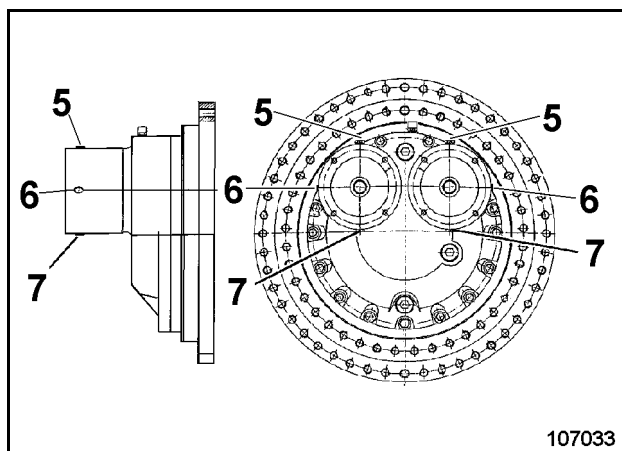

Fig. 3-133:
- Unscrew drain plug (7, Fig. 3-133:) and drain off the oil completely. Slackening plug (5) allows the oil to run out more readily.
- Clean screw plug (7).
- Screw screw plug (7) back in place.